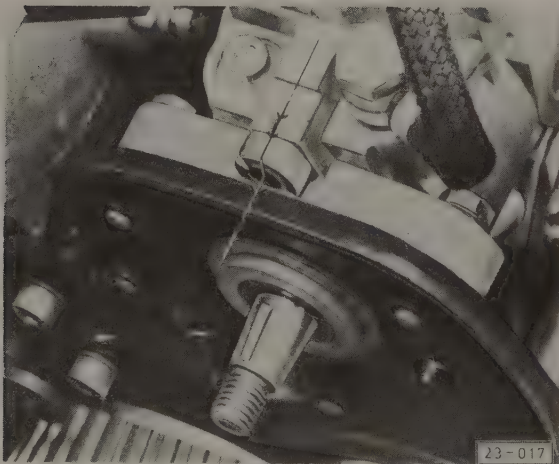

Fig. 5-16. Mark on fuel injection pump aligned with mark on mounting plate (broken line).
1. Install the pump on the front and rear mounting plates, and loosely tighten the bolts. Align the marks indicated in Fig. 5-16, then torque the bolts to 25 Nm (18 ft. lb.).